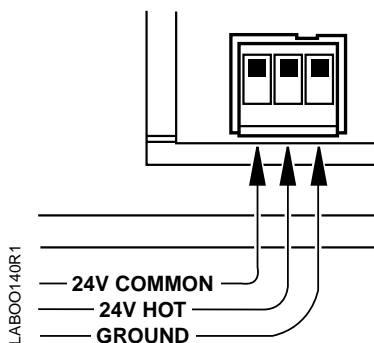

Figure 1. Power Trunk Connection to the Lab Controller Module.
1. Verify that the controller has 24 Vac power and that the fuse has been inserted into the trunk or that power to the transformer is ON. See *Figure 1*.